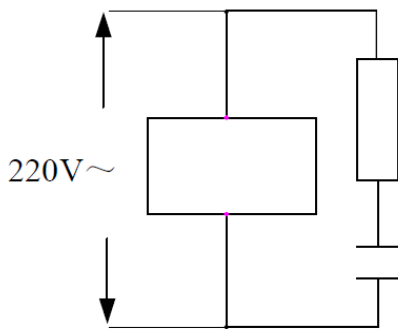
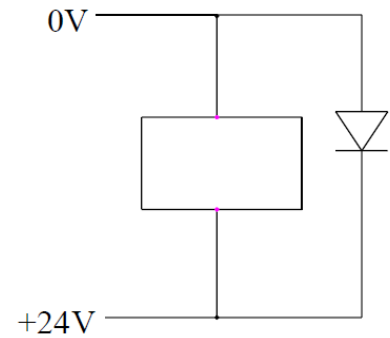
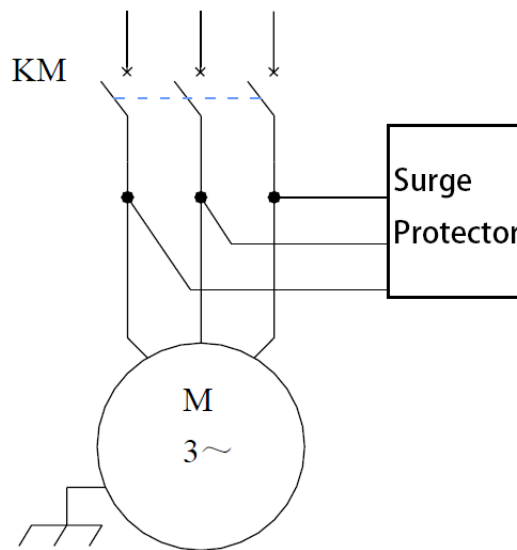

Figure 1-3
Figure 1-4
Figure 1-5
- 3, suppress interference: in the AC coil at both ends of the parallel connection RC circuit (figure 1-3), the RC loop should be installed as close as possible to the inductive load; Reverse parallel freewheeling diodes at both ends of the DC coil (Figure 1-4); At the winding end of the AC motor and connect the surge absorber (Figure 1-5).